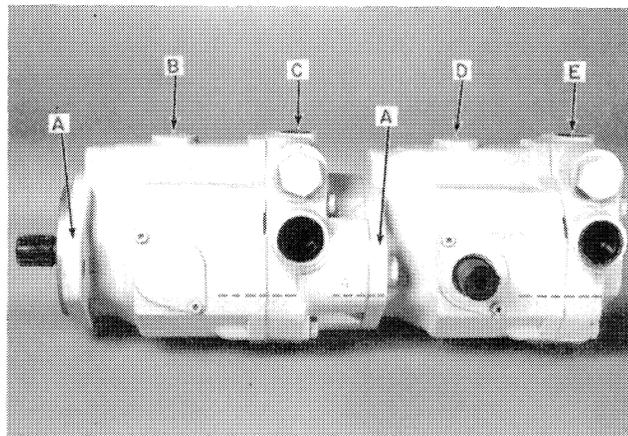

FIGURE 4-1
The complete hydrostatic pump assembly, Figure 4-1, consists of these main components: the left transmission pump, B, the left valve block, C, the right transmission pump, D, and the right valve block, E.
NOTE: Dealer adjustment requests for oil leak repairs, other repairs, or overhaul of transmission pumps must include the model number of the transmission and the date code. These are stamped in the flange of the pump housings, A, Figure 4-1.
1. Clean complete pump assembly, B, Figure 4-1, before teardown.
2. To insure proper reassembly, use a screwdriver to scratch lines across the pump housing and valve plates as shown by the dotted lines in Figure 4-1.